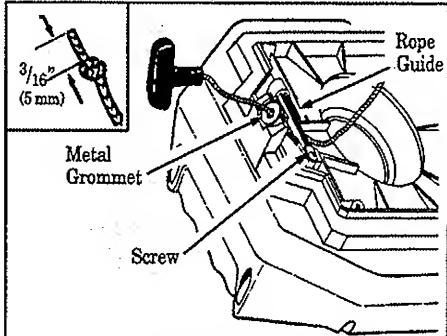

Figure 17
- Insert one end of the rope through the handle and secure with a knot. Leave $3/16$ " (5 mm) pigtail behind the knot. Figure 17 (Inset).
- Insert the other end of the rope through the metal grommet, then under the rope guide. Figure 17.